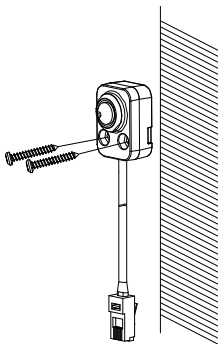

Figure 2-11 Fix the Block-shaped Sensor Unit
1. Fix the Block-shaped sensor unit on the mounting surface with screws, as shown in Figure 2-11.